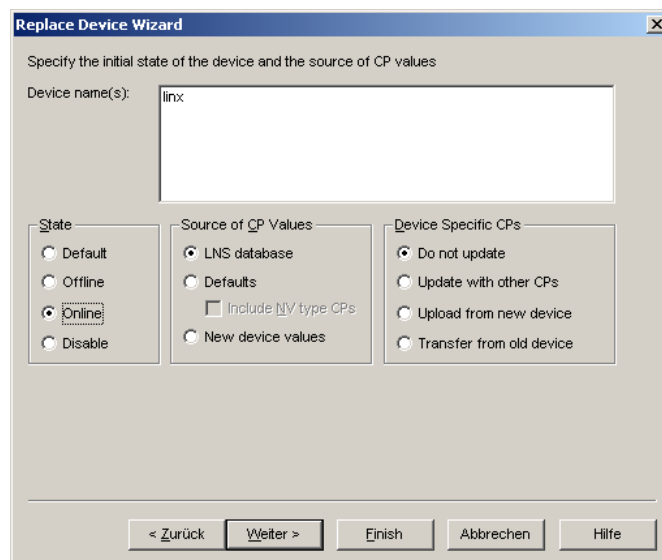

Figure 81: Select online state.
5. Then select **Online** as shown in Figure 81 and click **Next**.